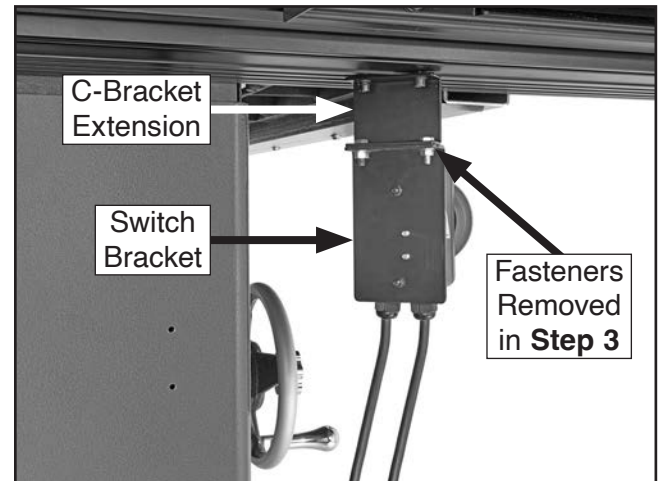

Figure 21. ON/OFF switch bracket attached to C-bracket extension.
43. **G0899 Only:** Attach ON/OFF switch bracket (see **Figure 21**) to C-bracket extension using fasteners removed in **Step 3**.